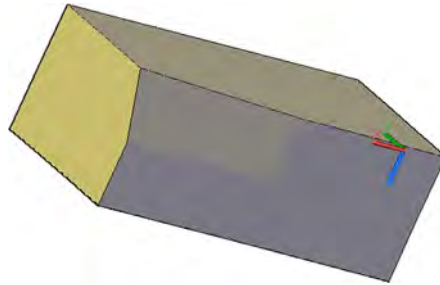

FIGURE 26.31
- **Collapse Face or Edge:** This tool, found under the Ribbon's Mesh, Mesh Edit, makes a selected face or edge disappear on a shape, with the remaining ones closing ranks around the void, as seen in Figure 26.31 with a mesh box.